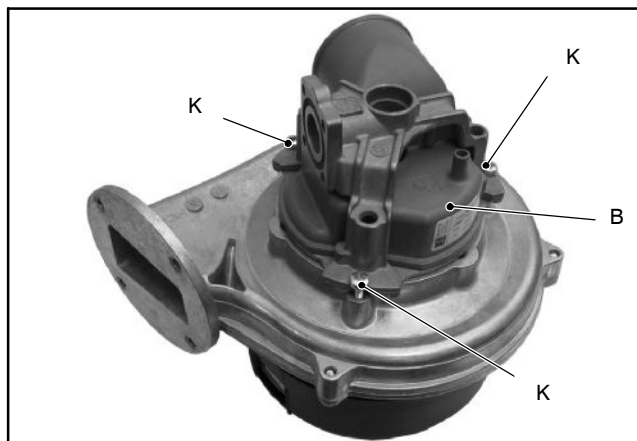

Fig. 17.3
- 11 Remove the screws K and the air box B (Fig. 17.3).